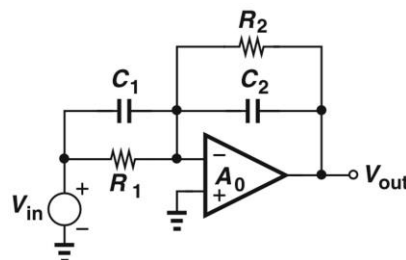

Fig 1.4.
- f) Calculate the transfer function of the circuit shown below in Fig. 1.4 if $A_0 = \infty$. What choice of component values reduces $|V_{out}/V_{in}|$ to unity at all frequencies? [5]